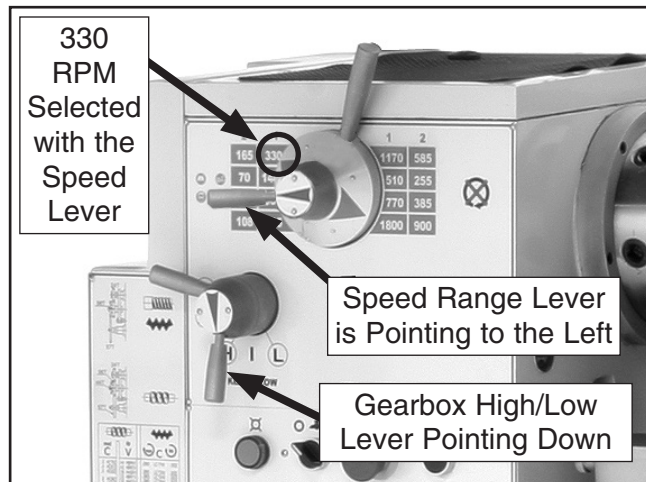

Figure 12. Headstock controls.
11. Move the three headstock levers so they are positioned as shown in **Figure 12**. This will select a spindle speed of 330 RPM.